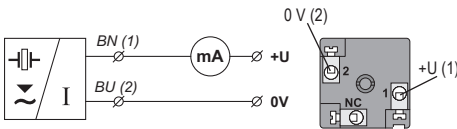
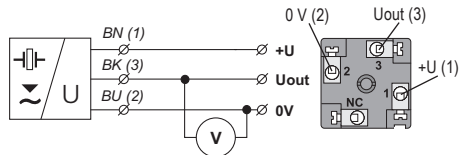
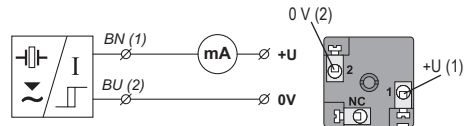
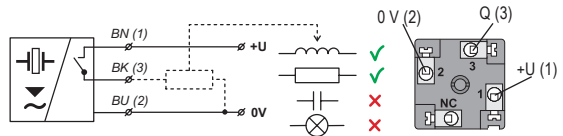

Fig. 16: Connection diagram of the ULM level meter (variant -I) and inside view of the connector
Fig. 17: Connection diagram of the ULM level meter (variant -U) and inside view of the connector
Fig. 18: Connection diagram of the ULS sensor with S type output (two-state current switch 4 mA / 20 mA)
Fig. 19: Connection diagram of the ULS sensor with P type output (PNP) with an open collector
The ULM level meter or ULS level sensor with a G type cable gland are connected to processing (display) units by means of a cable with an outer diameter of 6 to 8 mm (recommended wire cross-section 0.5 to 0.75 mm2), via a detachable ISO connector with inner screw terminals, which is part of the delivery. The connection diagram and the inner view of the connector are shown in Fig.16 and 17. Non-detachable connector IP67 with PVC cable 5 m long can be supplied as an extra option.
4. Connect the cable wires to the screw terminals as shown in Fig. 16 (current output 4-20 mA), Fig. 17 (voltage output 0-10 V), Fig. 18 (S type output) or Fig. 19 (P) type output. Tighten the terminals firmly.